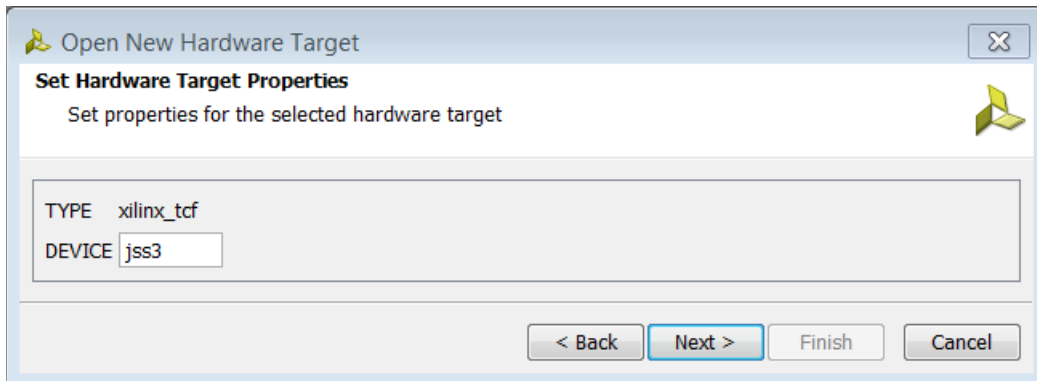

Figure 66: Type and Device
- Click **Next** again to invoke the next dialog box (Figure 66).